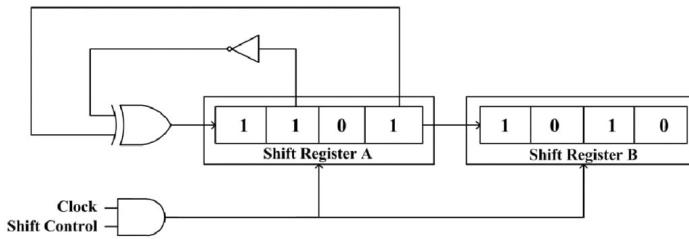

Fig. 5.10
10. In the circuit shifter in Fig. 5.10, the initial binary content of the shift register A is 1101 and that of shift register B is 1010. The shift registers are positive edge triggered, and the gates have no delay. When the shift control is high, which of the following are legitimate combinations of binary content of the shift registers A and B in any clock pulse?